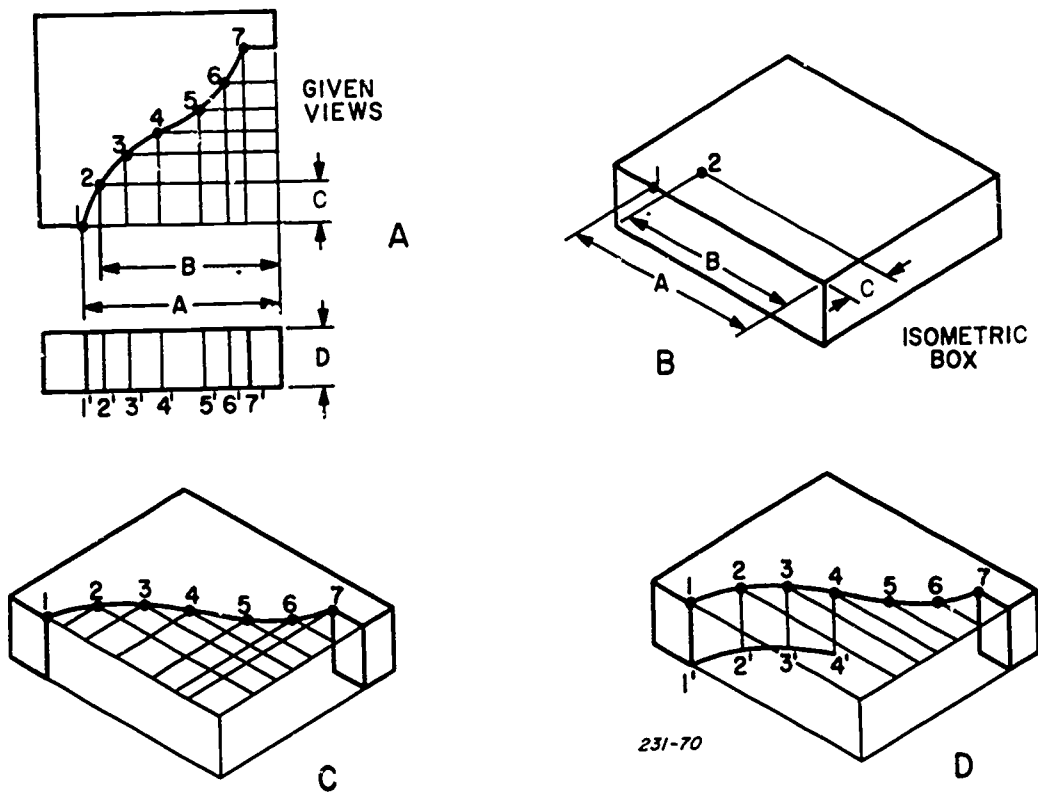

Figure 4-60. Curves in isometric projection.
**Curves in isometric.** The offset method of measuring is widely used in the drawing of curved lines. This method consists of locating points through which the desired curve is drawn. Figure 4-60 shows how to draw noncircular curves from points plotted by offset measurements. The curves in solid figures usually appear in pairs as parallel curved edges of the object. To simplify your drawing, draw one curve by plotting the points and then draw isometric lines from the points. Find the remaining parallel curve by stepping off the distance along corresponding isometric lines. Here's how this is done.
Figure 4-60 consists of four parts which show the steps used to make an isometric drawing of an object containing a
Draw the isometric box as shown in part B of figure 4-60. Lay off along isometric lines the dimensional measurement A and the offset measurements B and C from the top view to locate points 1 and 2 on the curve in the isometric box. Locate the remaining points by using the same offset method. This step is shown in part C of the figure and represents a continuation of step B. After locating all points, sketch a light freehand curve through the points as shown in the illustration.
Notice in the front view of the multiview projection that points 1' through 7' are established by projection from the top view. Locate these points in the isometric (see part D of fig. 4-60) by drawing vertical lines downward from points 1 through 7, making all lines equal to the dimension D shown in the orthographic front view. Sketch a light freehand curve through the ends of these lines (points 1' through 7'). Complete the curved surface by drawing the finished curve, using an irregular curve as a guide.